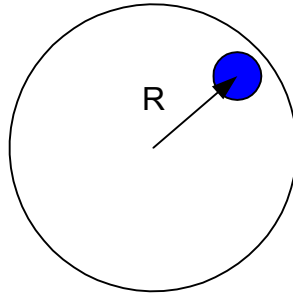

Figure 4: Distance between center of platter to center of shot-put.
but the linear velocity is equal to the angular velocity times the distance between the center of platter to center of ball which is denoted by R, refer to Figure 4. Thus equation (8) becomes: